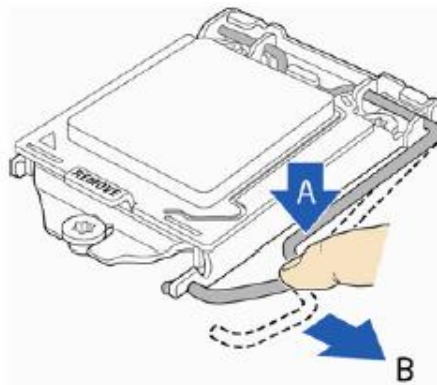

Figure 19: Unlatch the socket lever
1. Unlatch the processor socket lever by pushing it down and away from the socket. (Figure 19, A, B)